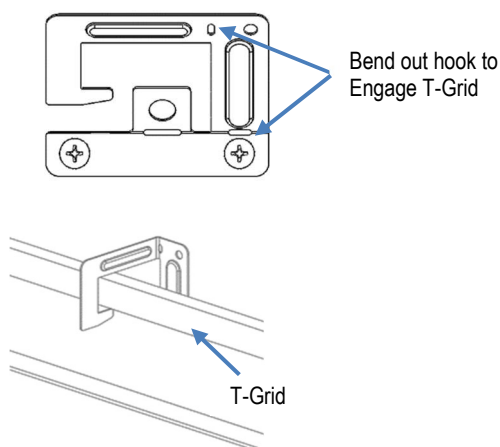

FIG. 9: T-GRID MOUNTING
- b. From above ceiling, bend the attached T-Grid clips over the T-Grid ceiling on all 4 corners to secure the fixture to the T-Grid. See Figure 9.